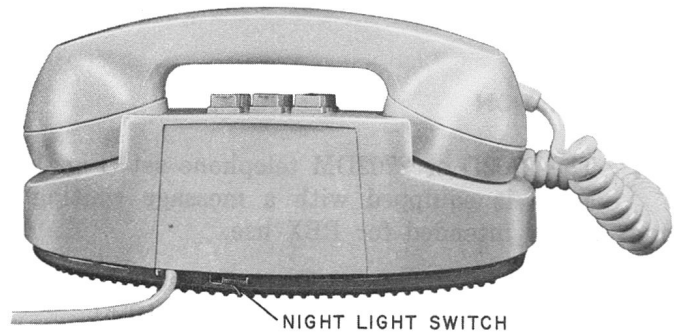

Fig. 4—2700-Type Telephone Set, Rear—Night Light Switch Location
- **Night Light Switch:** allows dial lamp to be operated at reduced intensity (dial lamp illuminates dial at full intensity with handset off-hook) (Fig. 4).